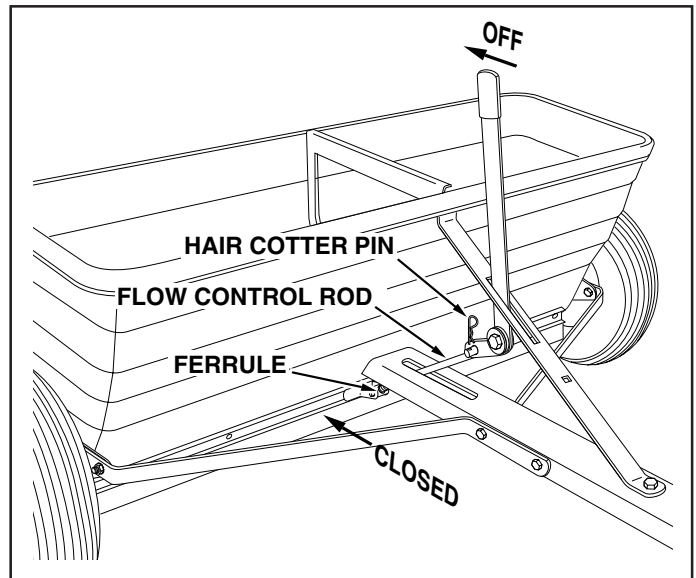

FIGURE 5
- Move the flow control arm back towards the hopper as far as it will go ("OFF" position). Close the flow plates at the bottom of the hopper by pushing them back as far as they will go. The arm and the plates must remain in this position for the next step. See figure 5.
- Place the threaded end of the flow control rod through the slot in the tongue and screw the rod into the ferrule at the bottom of the hopper. Screw in until the bent end of the rod aligns with the hole in the end of the flow control arm. Secure the end of the rod to the arm using the hair cotter pin. See figure 5.